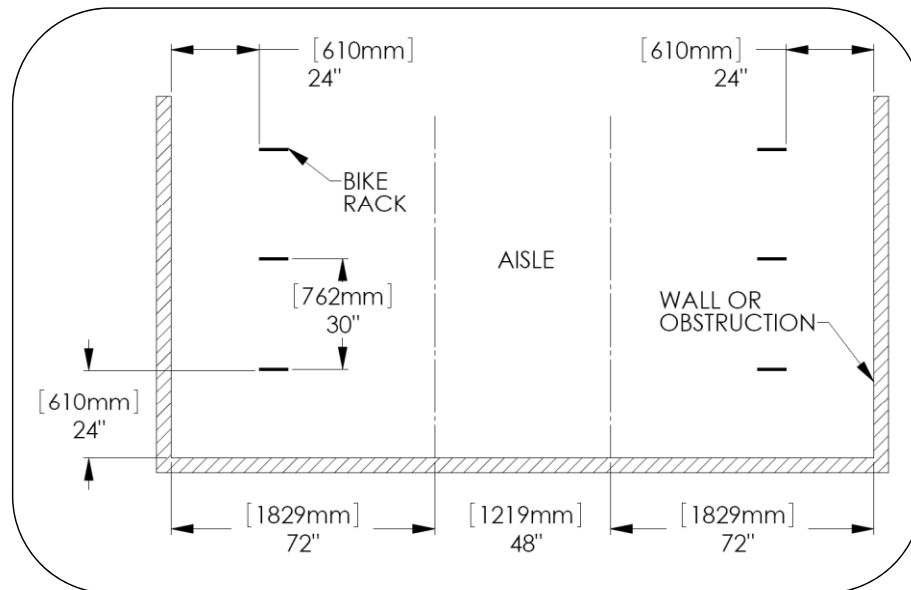

Fig. 1. - Recommended spacing, according to Association of Pedestrian and Bicycle Professionals (APBP)
1. Mark hole locations. See Fig. 1 for recommended spacing.